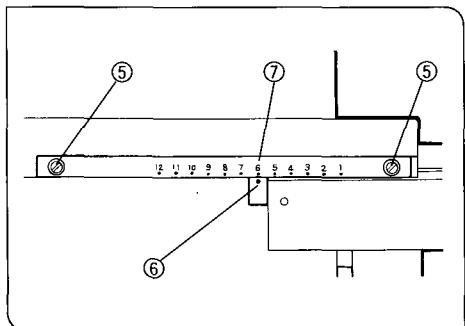

Fig. 61
2. Loosen the X-axis scale clamping knobs ⑤ and slide the scale to align the X-index • ⑥ with the scale index • ⑦. Then tighten the X-axis scale clamping knobs. (Fig. 61)